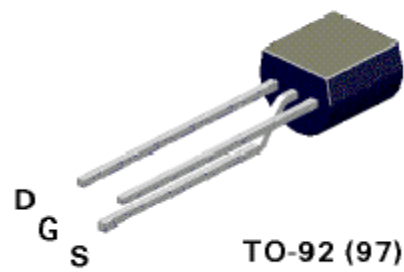

Figure 8: Pin designation for the MOSFET.
3. Set the 25V power supply to zero Volts initially, and connect it to the gate of the FET as your device under test as shown in the schematic and layout below. Note the pin designations for the transistor (see Figure 8).